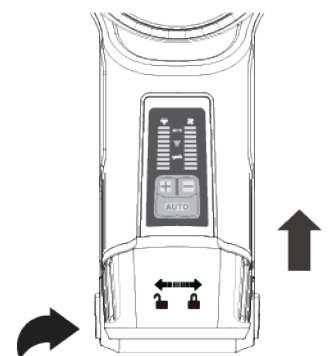

Figure 15
7. Place the Exhaust HEPA Filter Cover back onto the Main Body and turn to the right to lock into place. (Figure 15)